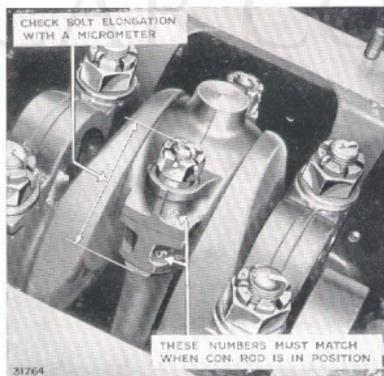

Fig. 44. Connecting rod in position.
3. Fit connecting rod caps and ensure that the number stamped on the connecting rod big end corresponds with the number stamped on the cap (see Fig. 44).